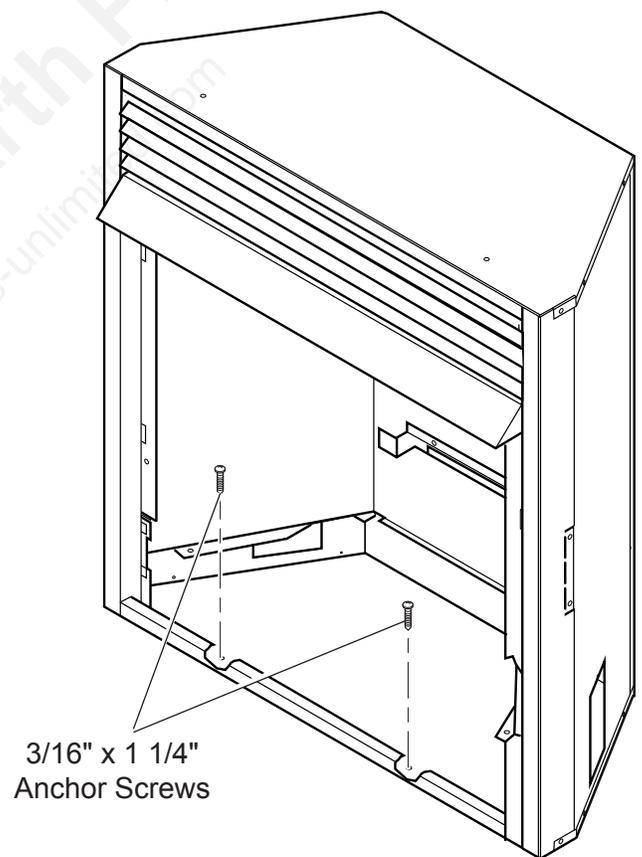

Figure 17 - Securing Heater to Floor or Hearth
5. Secure the firebox with two anchoring screws ($\frac{3}{16}$ " x $1\frac{1}{4}$ " length) supplied with the fireplace system. See *Figure 17*.